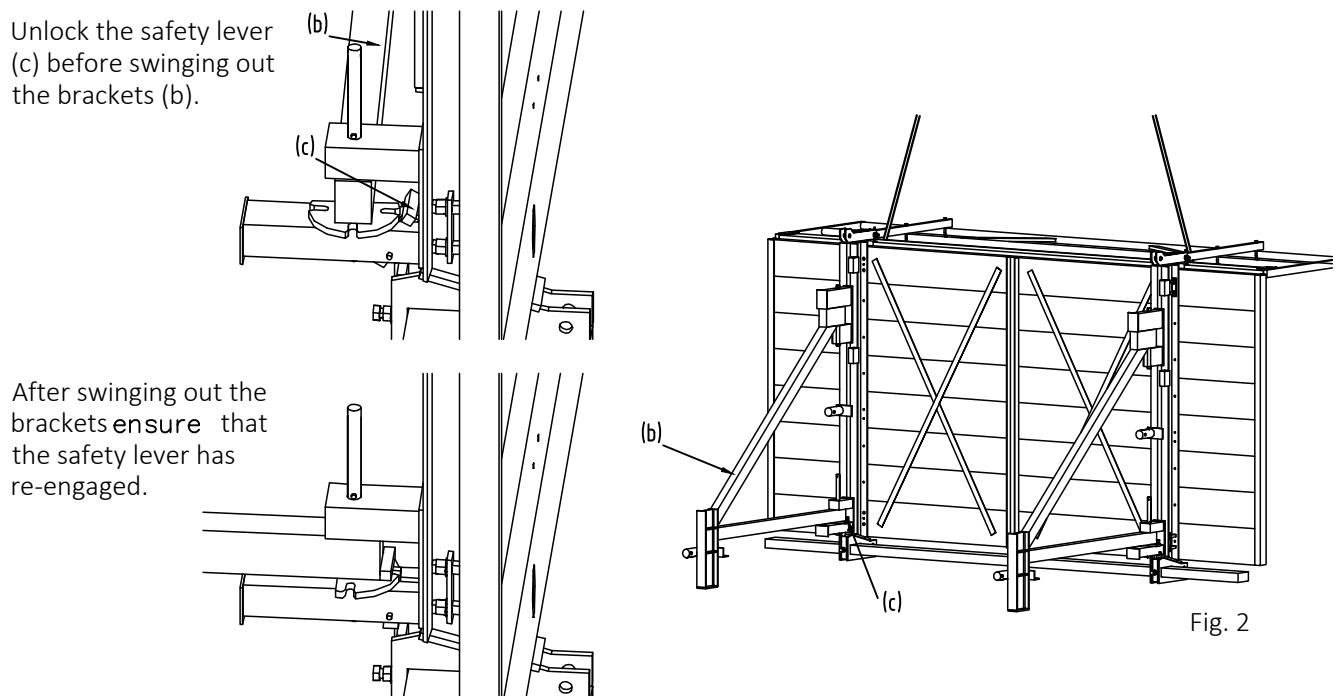

Fig. 2
- 2 Lift the working platform slowly into the vertical and swing out the brackets (b). To do this, the safety lever (c) must be first unlocked and then the brackets swung out until the safety lever snaps into place. After swinging the brackets out, check that the safety lever has re-engaged (see Fig. 2).